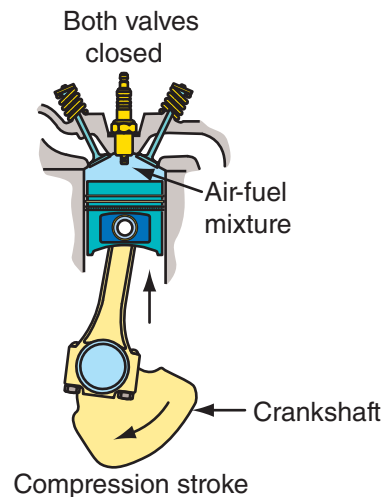

FIGURE 1.7 The air-fuel mixture is compressed as the piston moves up in the cylinder.
- **Compression Stroke.** The piston moves up in the cylinder, compressing the air-fuel mixture (**FIGURE 1.7**). If you light a puddle of gasoline on fire in open air, it does not produce power. If it is confined in a cylinder, however, usable power can be produced. Compressing the mixture of air and fuel into a smaller area makes it easier to burn. The compression stroke begins at BDC after the intake stroke is completed. As the piston